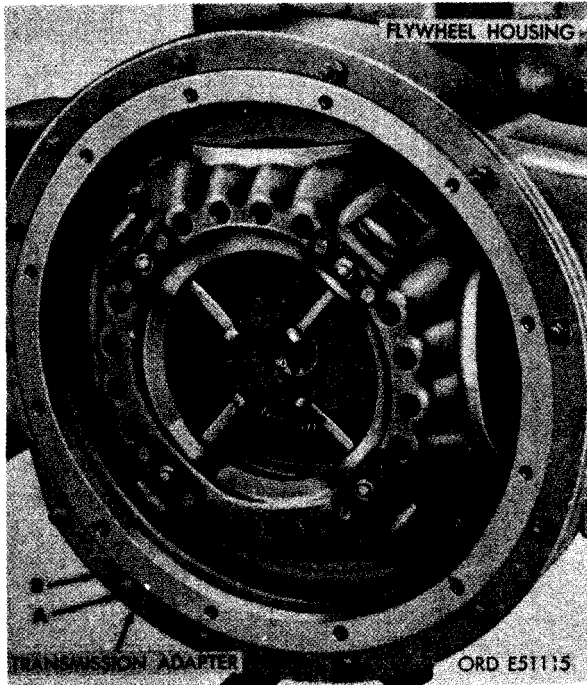

FIGURE 273. REMOVING OR INSTALLING TRANSMISSION ADAPTER.
- (1) Figure 273. (A) Remove thirteen 3/8-inch plain nuts and 3/8-inch lock washers securing transmission adapter to flywheel housing. (B) Remove transmission adapter.